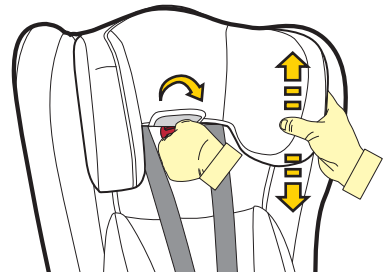

Figure 2
Step 3: Lift up or push down the headrest so that the shoulder strap slots are level with or slightly above your child's shoulders. If the headrest is just above the shoulders then the harness level will be correct (refer Figure 2 & 3).